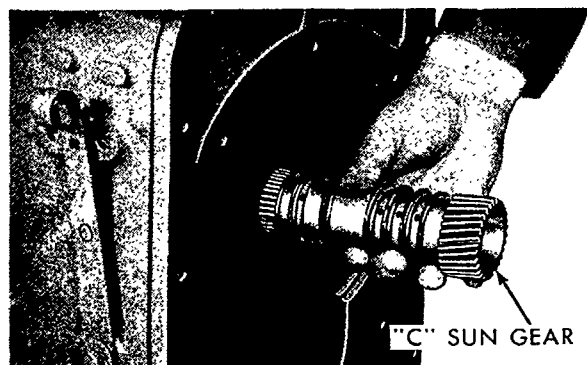

Figure 48
9. Remove the "C" sun gear as shown in Figure 48.
19. Install the six shaft seals on the "C" sun gear. Use petroleum jelly to center the seals. Insert the gear into the distributor so the splines align with the clutch 1 housing splines. See Figure 48. Install the thrust washer on the distributor rear journal.